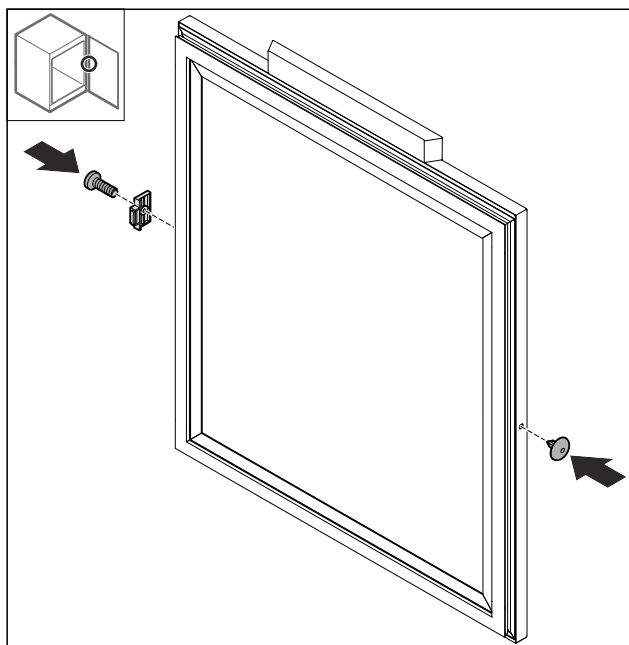

Fig. 45
- Mount the door stopper Fig. 45 (1) turned by 180° on the opposite side.
- Insert the cover Fig. 45 (2) on the opposite side.